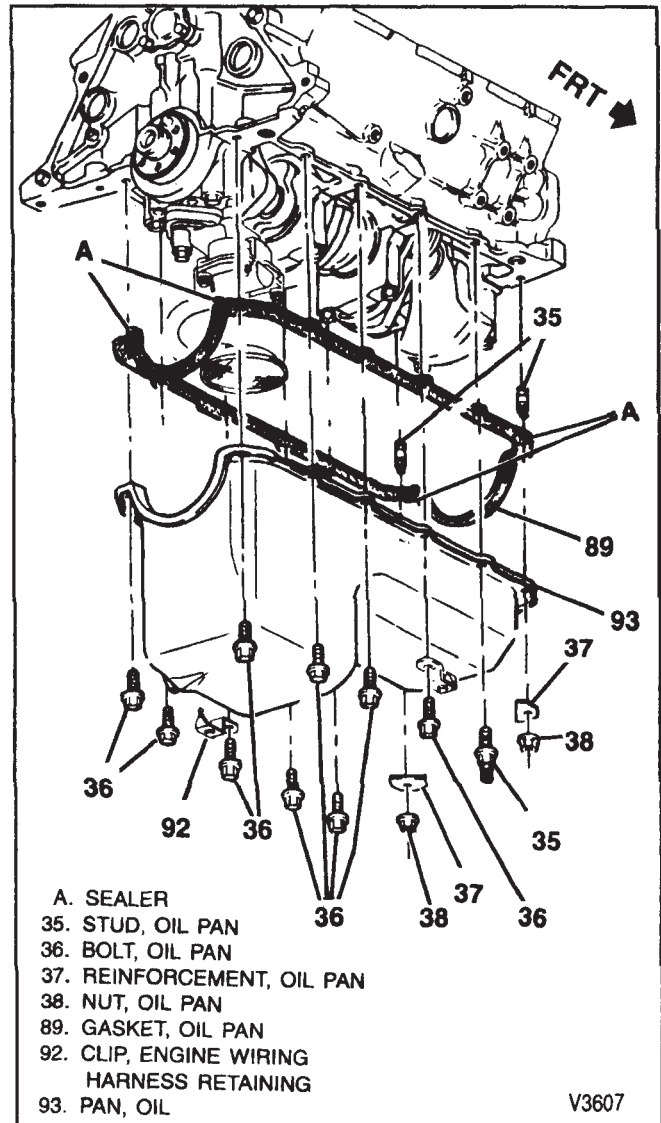

Figure 22—Oil Pan and Components
### ↔ Remove or Disconnect (Figure 22)
### ↔ Install or Connect (Figure 22)
- Apply sealer (GM P/N 1052914 or equivalent) to the area shown in figure 22.
- Reinforcements (37) and clip.
- Oil pan bolts (35) and (36).
- Oil pan nuts (38).